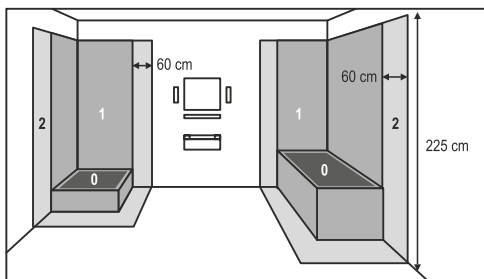

Figure 3. • 3.ábra • 3. obrázok • fig. 3. • 3. skica • 3. obrázek • Slika 3.
19. It is STRICTLY PROHIBITED to install and use the appliance in zones 0 and 1 of premises containing a bathtub or a shower (see Figure 3).